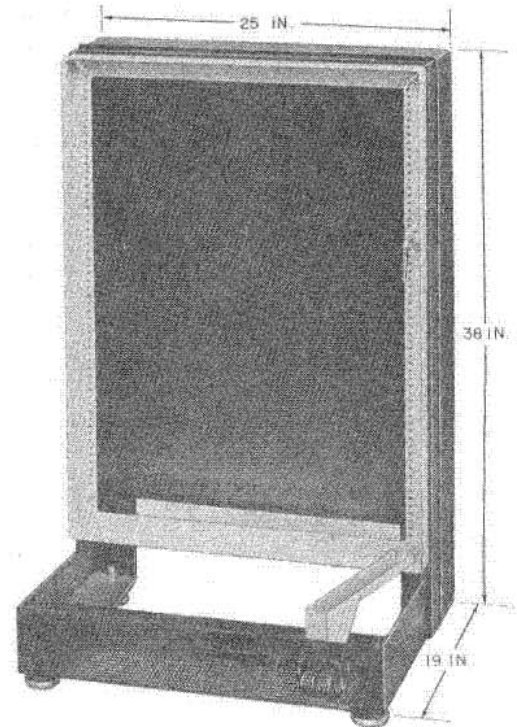

Fig. 18—#34C Cabinet⚡
4.09 The 34C cabinet (Fig. 18) is a general use, floor-standing unit consisting of a steel bottom and back and a hinged carrier gate. A caster supports the weight of the gate when it is open. Glides or optional casters (D-180700 Kit of Parts) are attached to the bottom corners of the cabinet for easy moving. The back provides a mounting surface for 100-, 101-, and 102-type connecting units; the gate provides a mounting space for a 2-type power panel and one or two 702- or 703-type panels. With a 154A cover installed, the cabinet is 20 inches wide, 19.6 inches deep, and 39.4 inches high overall.⚡